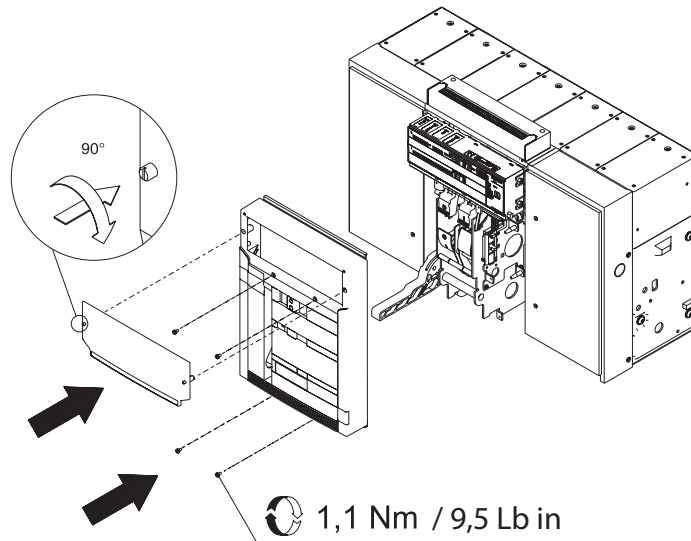

Figure 46.
- Refit the cap as indicated in Figure 46.